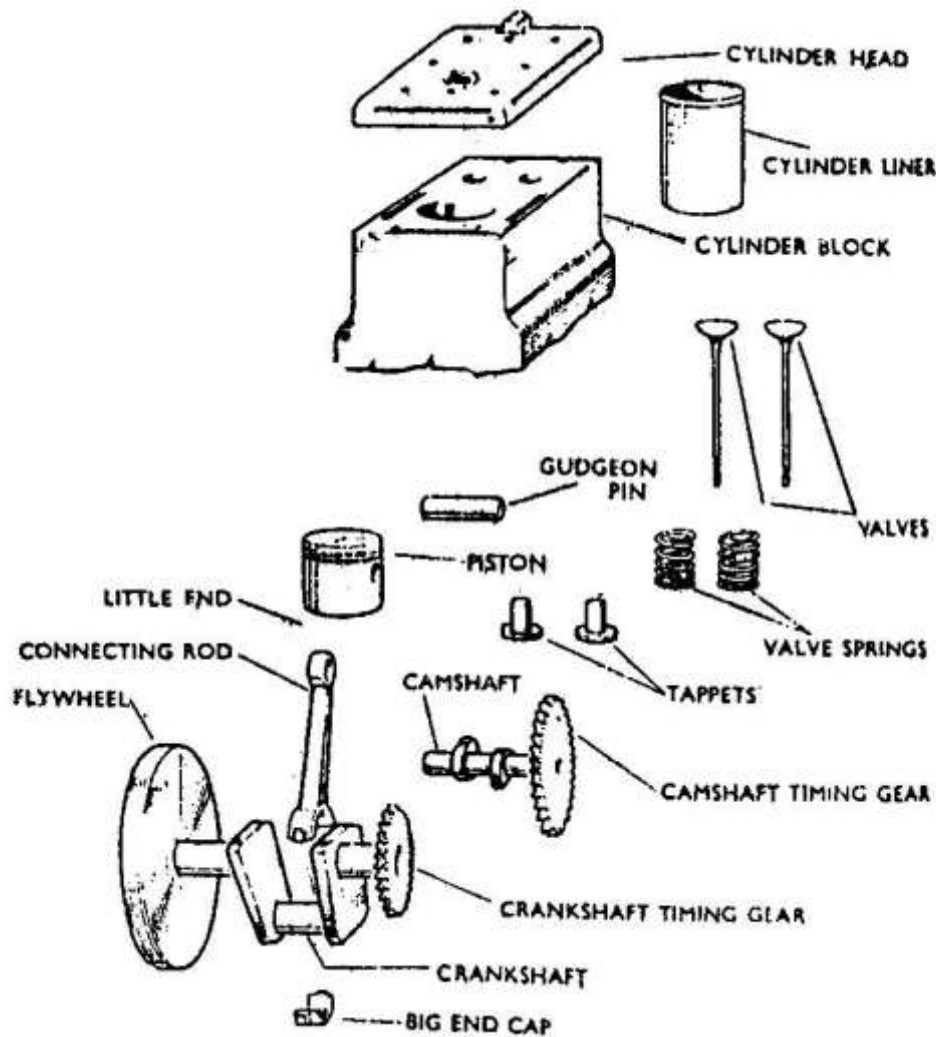

Fig. 2.Components of I.C. Engine.
2.4 Engine components Internal combustion engine consists of the following parts (Fig.2):